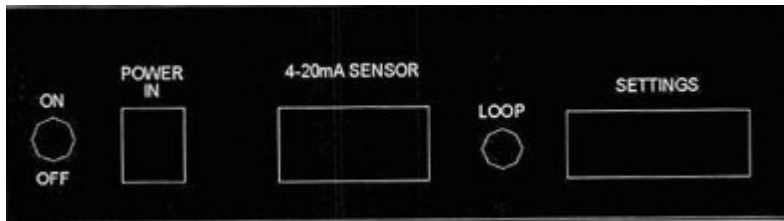
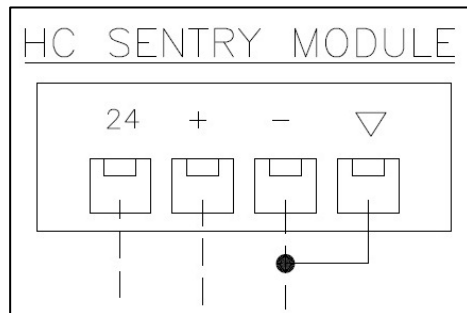
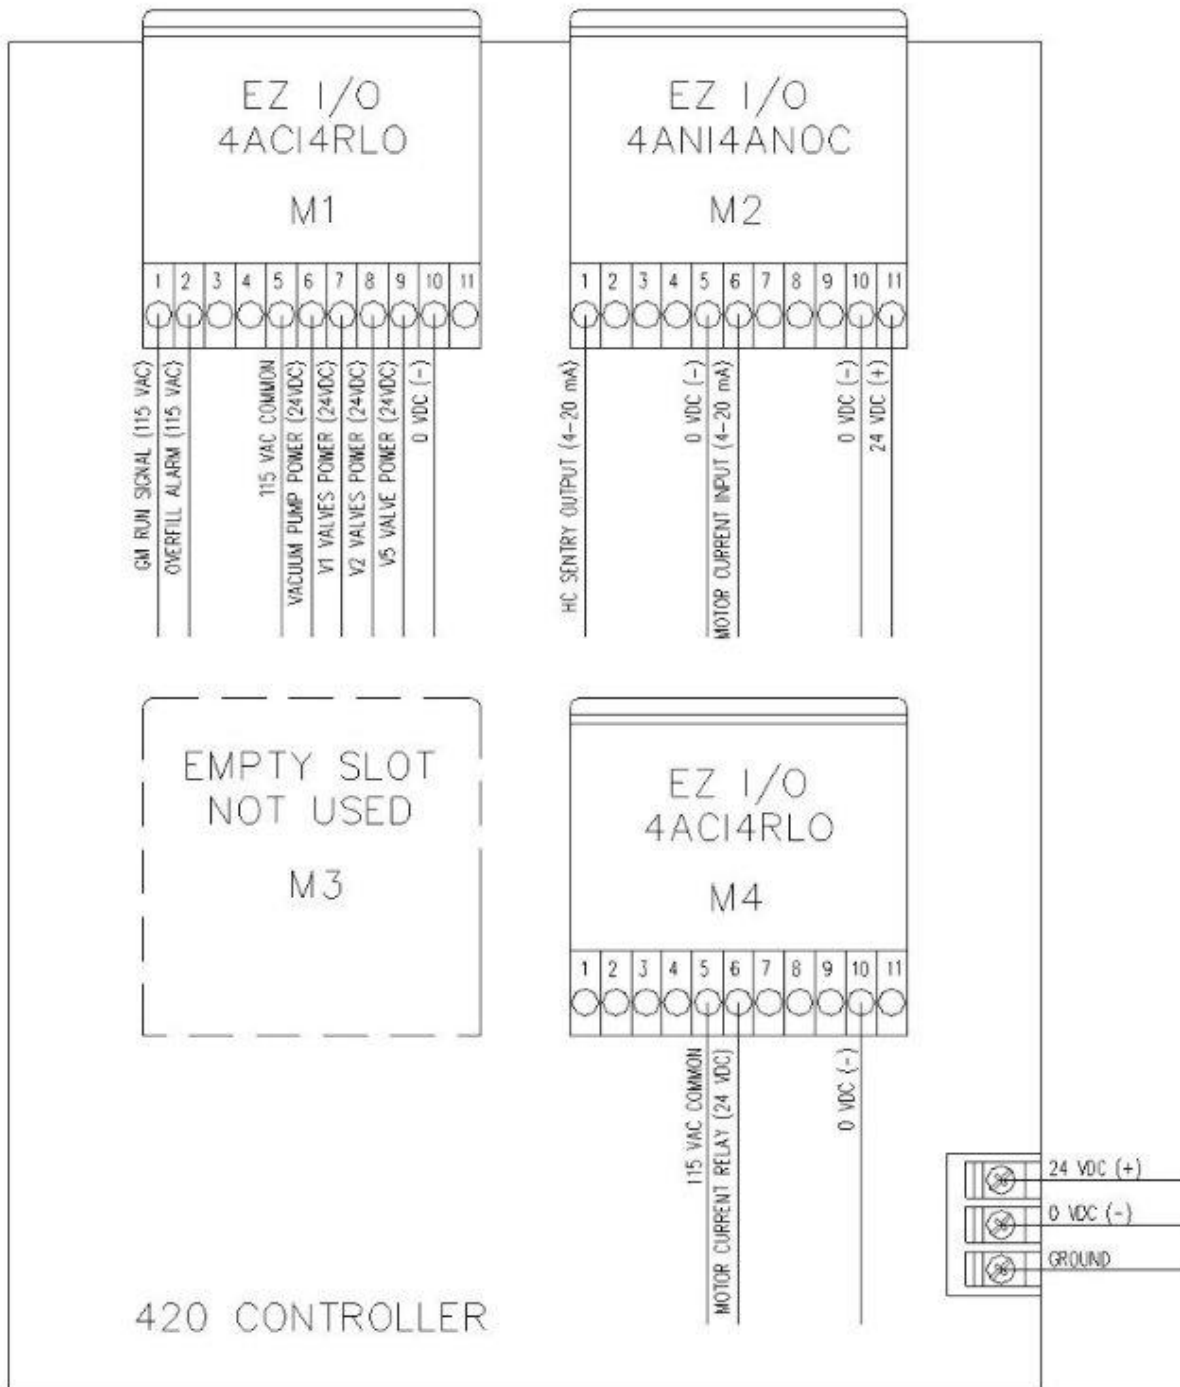

Figure 32: HC Sentry Front View
Figure 33: 24 VDC Power and 4-20 mA Signal Connections on the HC Sentry Module
Figure 34: Controller Input / Output Modules Connections
1.	<p>If the LOOP light is not ON: See Figure 32</p> <ol style="list-style-type: none"> a. Make sure the HC Sentry power switch is turned ON b. IF the power switch is ON, go to Step 2 c. IF the power switch is OFF, switch on the power ON. d. CLEAR TEST AFTER REPAIR (only if there is an alarm)
2.	<p>Check to see if the HC Sentry has 24 VDC power: See Figure 33</p> <ol style="list-style-type: none"> a. Using a multimeter with 24 VDC selected: b. Place the positive probe on the 24 connections c. Place the negative probe on the – connection d. The voltage should read 24 +/- 2 VDC e. IF there is 24 VDC at the HC Sentry, GO TO STEP 3 f. If the HC Sentry does not have 24 VDC power: <ol style="list-style-type: none"> a. Check the field wires connecting the VST control panel to the HC Sentry: See Figure 34 b. Make sure the VST control panel has 110 VDC power and the disconnect switch on the panel is turned ON c. Check that the 24 VDC power supply inside the VST control panel has power (a green LED will be ON) g. IF STEPS 1-3 are okay and the HC Sentry still does not have 24 VDC power, GO TO STEP 4
<p>3.</p>	<p>Make sure there is a milliamp signal from the VST control panel to the HC Sentry: See Figure 32</p> <ol style="list-style-type: none"> a. Using a multi-meter with mA amperage selected: Amperage must be tested in series. b. Disconnect the Wire connected to the + terminal on the Sentry c. Connect the positive probe to the (-) terminal d. Connect the negative probe to the wire to complete the circuit. e. The milliamp reading should be approximately 4 mA f. IF milliamp reading is 4 mA and the LOOP light is still OFF, GO TO STEP 4 g. IF there is no signal at the HC sentry: <ol style="list-style-type: none"> 1. Make sure the Input/Output modules on the back of the controller are pushed all the way in. See Figure 34 h. IF the HC Sentry still does not have 24 VDC power, GO TO STEP 5
1.	<p>Check to see if the mA input to the HC Sentry is less than 4.0 mA. This would indicate a fault condition with the VST controller or I/O module #2</p> <p>Check the milliamp signal input to the HC Sentry: See Figure 32</p> <ol style="list-style-type: none"> a. Using a multi-meter with mA amperage selected: Amperage must be tested in series. b. Disconnect the Wire connected to the + terminal on the Sentry c. Connect the positive probe to the (-) terminal d. Connect the negative probe to the wire to complete the circuit. e. The milliamp reading should be approximately 4.0 mA f. IF milliamp reading is between is less than 4.0 mA, GO TO STEP 2 g. IF the milliamp reading is 4.0 mA, GO TO STEP 3